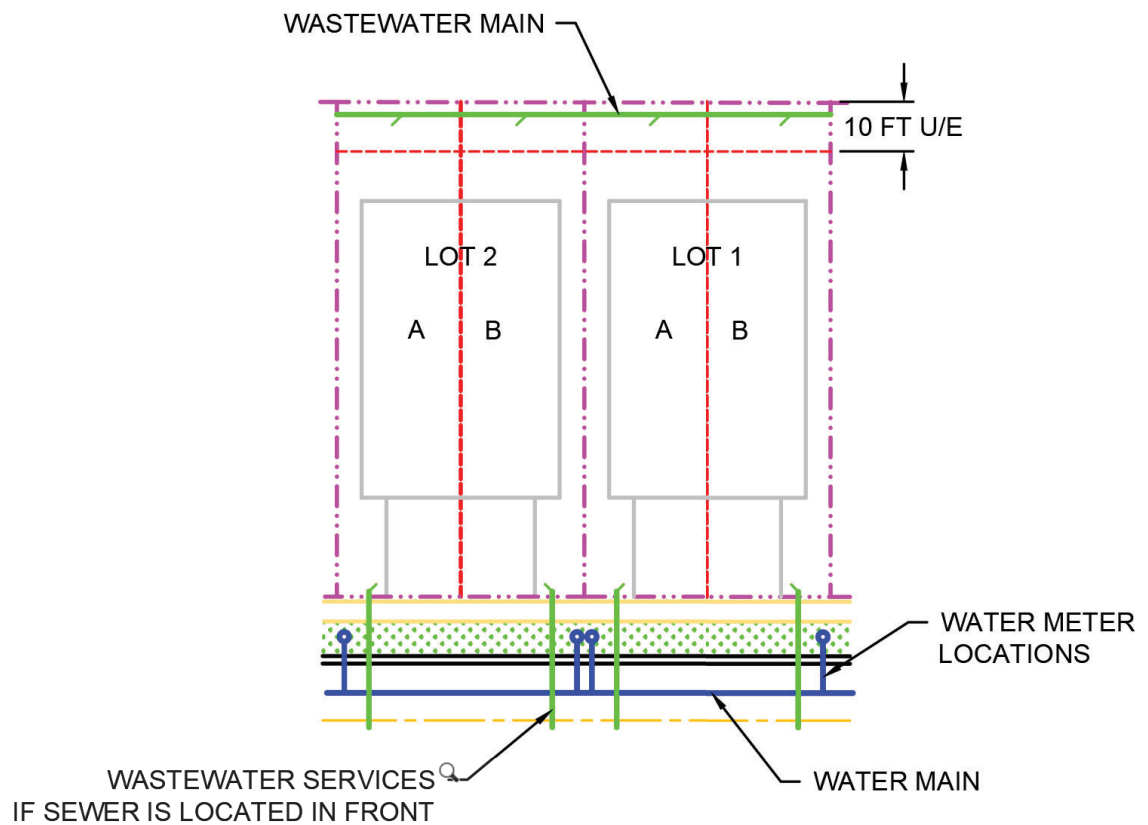

Figure 24 - Duplex Layout
1.1. Any residential subdivision and/or commercial complex development where any exterior boundary of the development is within one-half (1/2) mile of an existing main or main under construction, the development is required to extend public water mains to and across the development in accordance with this Manual. See Figure 24.
1.2. Any residential subdivision and/or commercial complex development within the same wastewater shed subbasin, as delineated by the United States Geological Survey (USGS), and where any exterior boundary of the development is within one-half (1/2) mile of any an existing public wastewater main or main under construction the development is required to extend the public wastewater mains to and across the development in accordance with this Manual. See Figure 24.